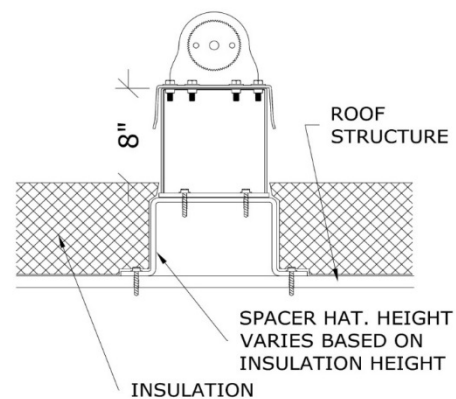

Figure 6
- **Steel Spacer Hat:** Similar to using a wood block as outlined above, a steel spacer may be used. An effective method is to use a steel plate bent into the shape of a hat section as shown in Figure 6. The spacer hat must be appropriately sized and attached to the structure.